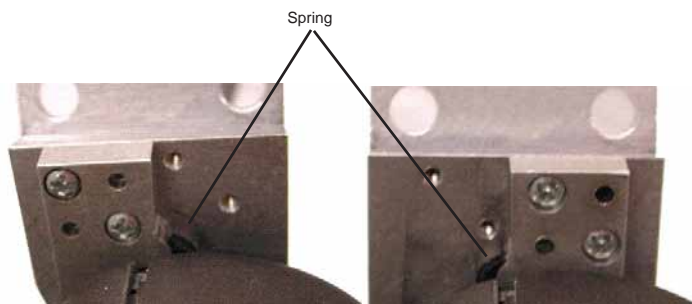

Fig. 7
6. Flip rotation stop over 180°(See Fig 7) Rotate spring to accommodate new stop location.
Note: spring location in Fig 7